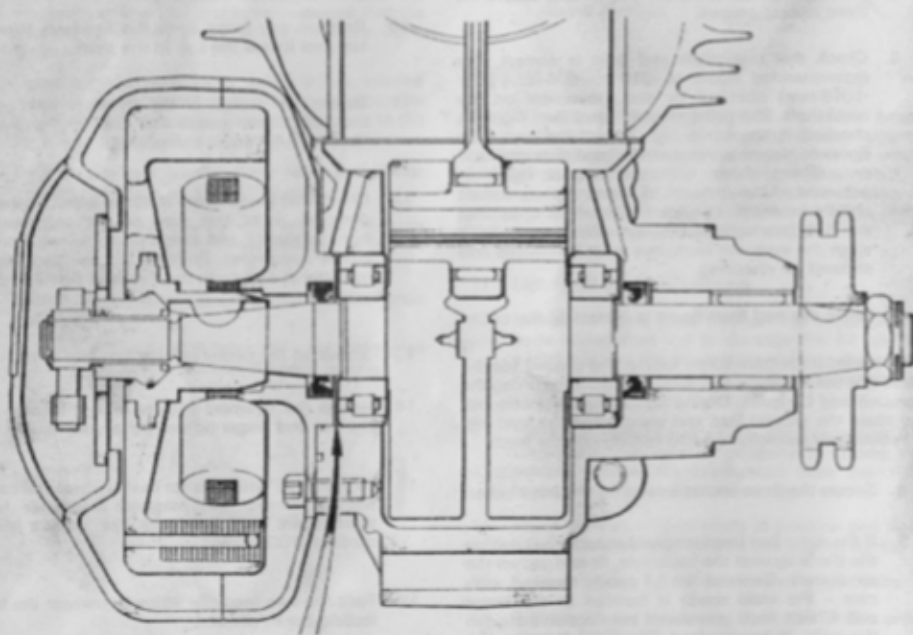

Fig. 26 Diagram of crankshaft fitted in crankcase—arrow indicates point of shimming crankshaft and float.
- 12 Lower the drive shaft through the bearings and seals taking care not to damage the oil seal lip whilst guiding the connecting rod into the crankcase mouth. A diagram showing the crankshaft in the cases is given in Fig. 26.